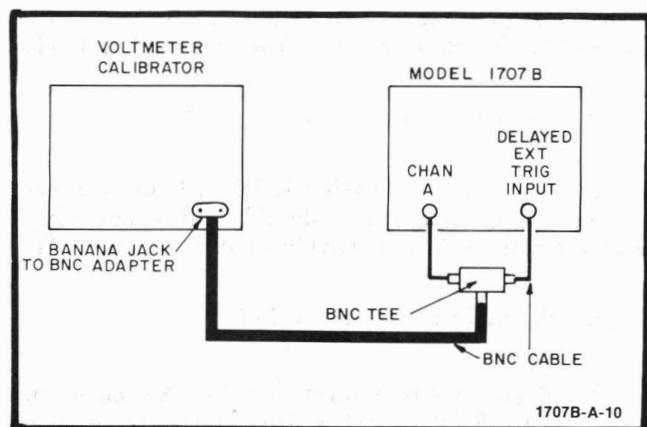

Figure 5-15. Delayed Trigger Level Range and Polarity Test Setup
- Connect instruments as shown in figure 5-15.